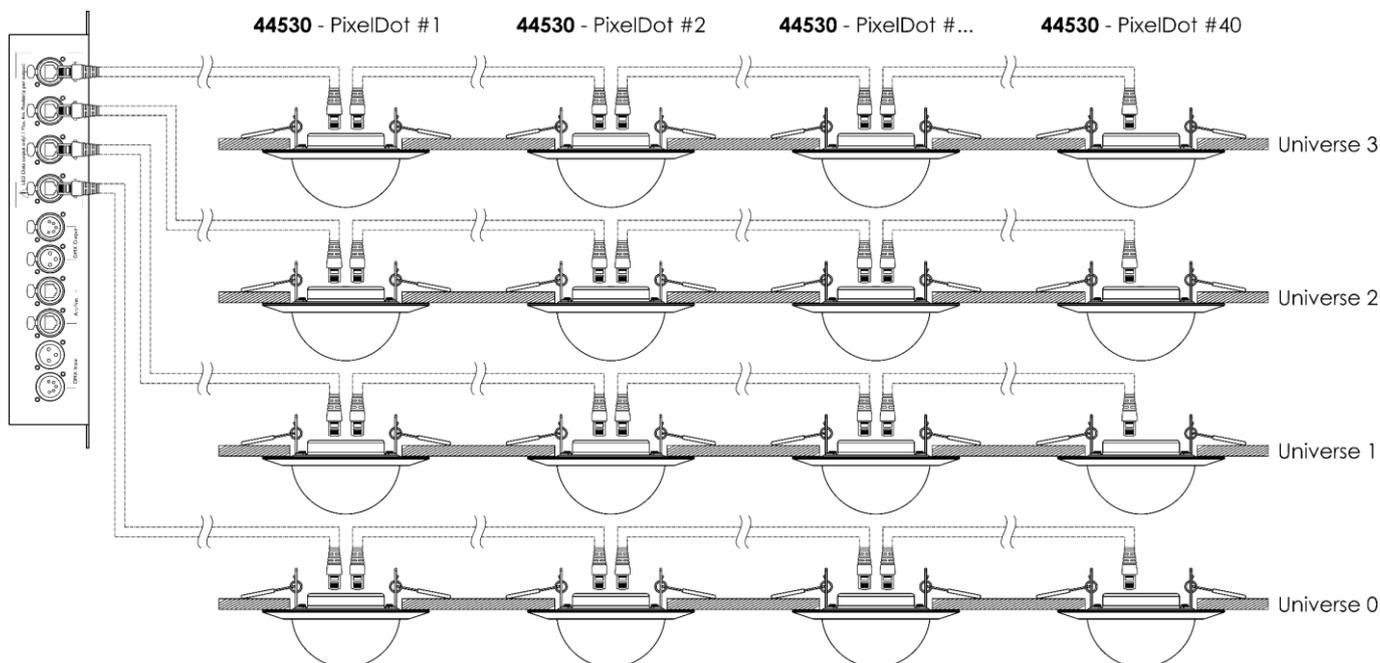

Fig. 07
Connect the Pixel Controller's output port to the PixelDot's **RJ45 input connector (03)** with a CAT cable (max. 10 m). For more information about the connection of power supply, see Fig. 07 on page 10 and refer to the user manual of the Pixel Controller (44510).
- 04) Repeat step 3 to connect up to 40 PixelDots per output, as shown in Fig. 07 on page 10.